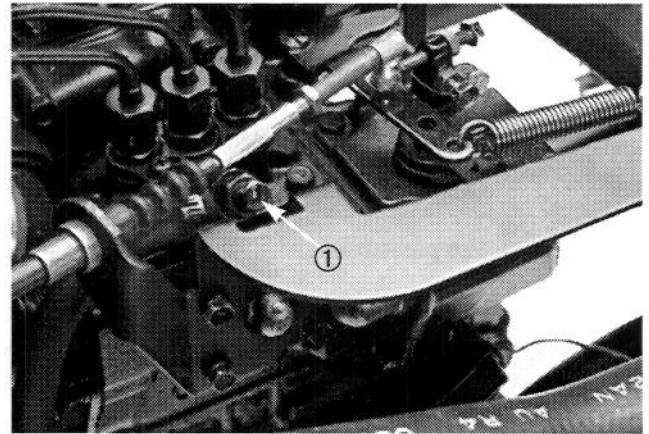

Figure 12
3. Open the air bleed screw on the fuel injection pump (Fig. 12) with a 10 mm wrench.